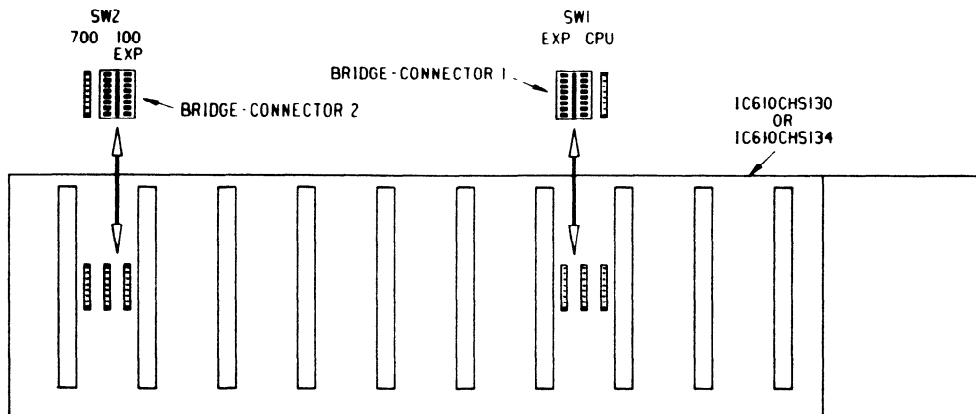

Figure 3-5. I/O Addressing Switches in Series One Plus 10 Slot Racks
15. The 10-slot racks, IC610CHS130/134 have two bridge connectors on the back plane which must be configured. Bridge connector SW1, located between slots 3 and 4, has 2 positions EXP and CPU. The jumper must be positioned on the corresponding pins to specify whether the rack is a CPU rack or an Expansion rack. Bridge connector SW2, located between slots 9 and 10, selects the address to be assigned to slot 10 and the expansion rack slots. The selections are either 100 EXP or 700. Figure 3-5 shows the location of SW1 and SW2.